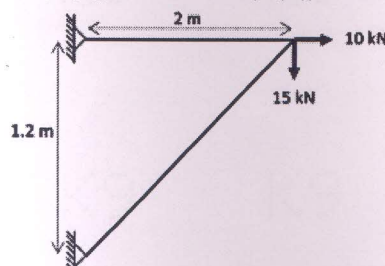

Fig.7
8. Analyse the plane truss supported and loaded as shown in Fig.7. Adopt the cross-sectional area of each member is 1200 mm^2 and modulus of elasticity is 200 kN/mm^2 . [10]